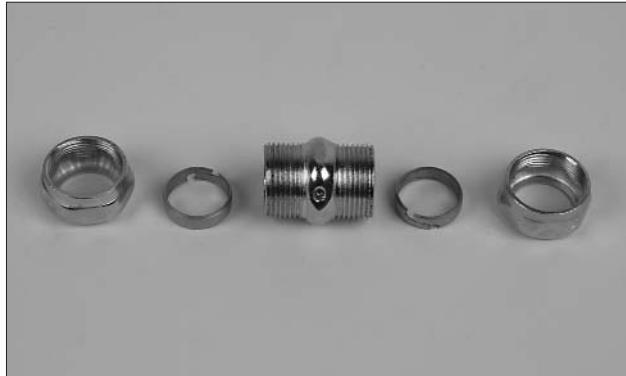

FIGURE 91
1. Remove rings from both ends of compression union. See Figure 91.